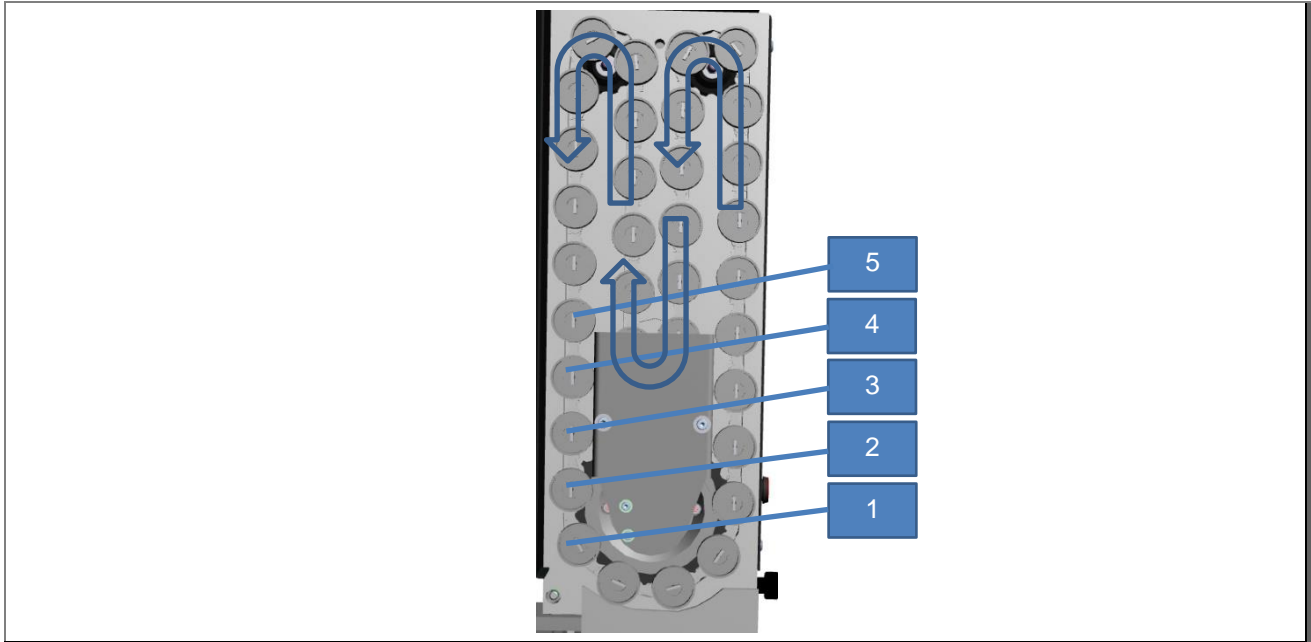

Fig. 6: Loading the CSi/d Autoloader
1. Place the first crucible onto the crucible tray (1) (see Fig. 6: Loading the CSi/d Autoloader).
2. Place all further crucibles onto the crucible trays (2-5) etc. (see Fig. 6: Loading the CSi/d Autoloader).